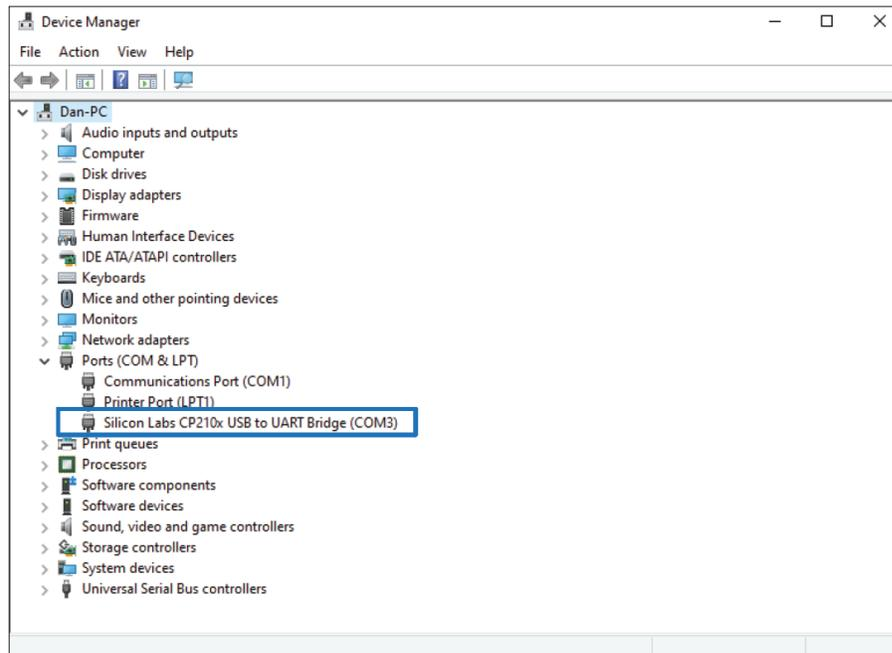

Figure 20
3. Look for "Silicon labs CP210X USB to UART Bridge (COM #)". (Figure 20)